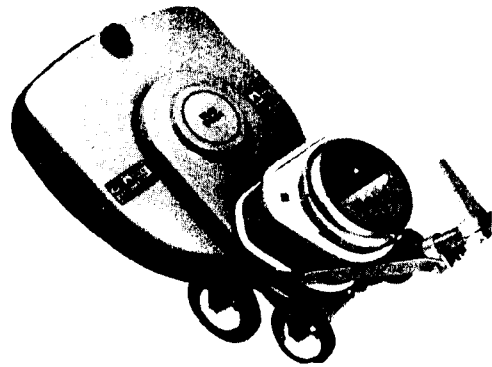

FIG. 8
Store machine by tilting back so that all four (4) rear wheels rest on floor. This elevates the drive block so that it need not be removed between uses. Detachable supply cord may be coiled and stored separately or with machine. SEE FIG. 8